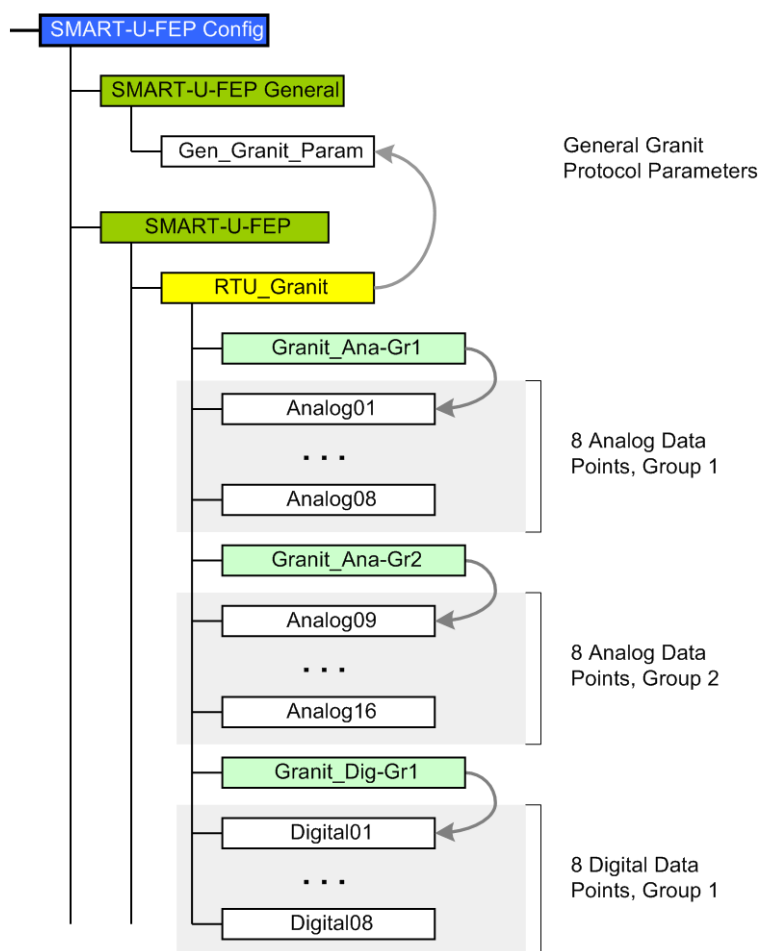

Figure 3-6.13: Protocol Granit: Data Points, Data Groups and System Links
6. Open tab **Links** and establish system links to the data points associated to the respective group, see Figure 3-6.13